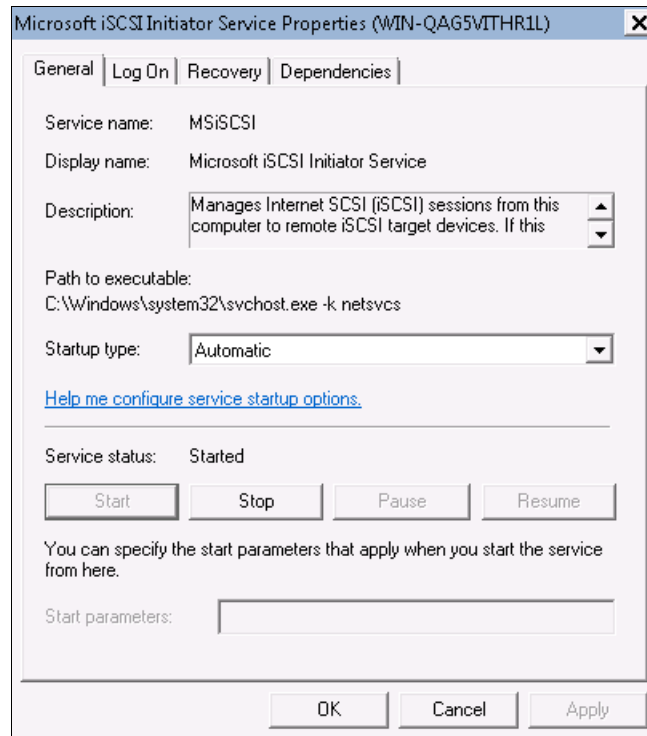

Figure 7-119 Microsoft iSCSI Initiator Service properties
18. In the Microsoft iSCSI Initiator Service Properties window (Figure 7-119), select the Startup type. In this example, we chose **Automatic** for the service to begin when the server is restarted to maintain a connection to the iSCSI target. Click **OK**.